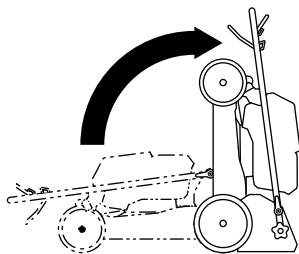

Figure 17
5. Lift the front of the machine by the handle and move it into a storage space (Figure 17).